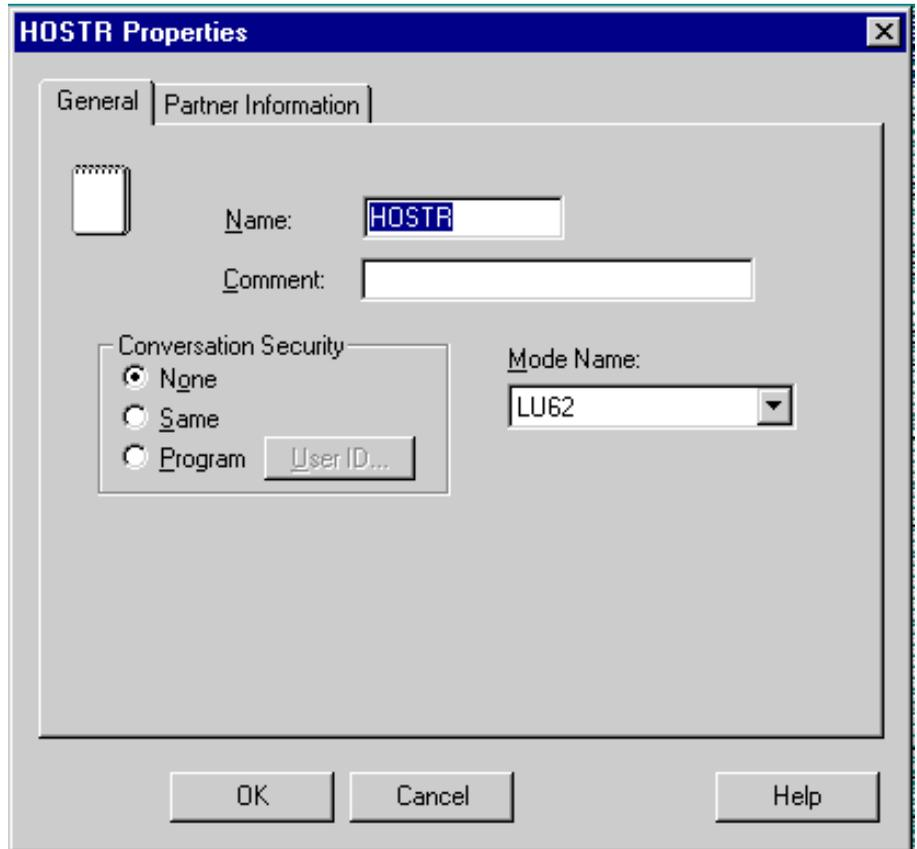

Figure 60. Configuring the CPIC properties: general page for HOSTR
- 2 On the General page, enter **HOSTR** in the Name field, as the CPI-C Symbolic Destination Name, as shown in Figure 60.